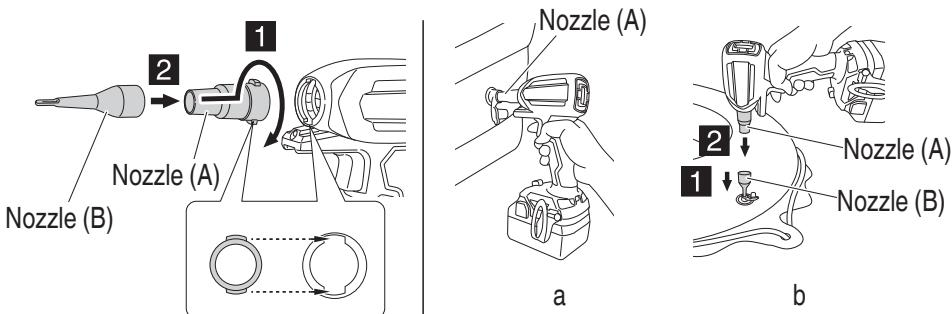

Fig. 13
For large items such as air mattresses, insert Nozzle (A) into the air plug. (**Fig. 13-a**)
For small items such as swim rings and beach balls, first insert the tip of Nozzle (B) into the air plug, then insert Nozzle (A). (**Fig. 13-b**)